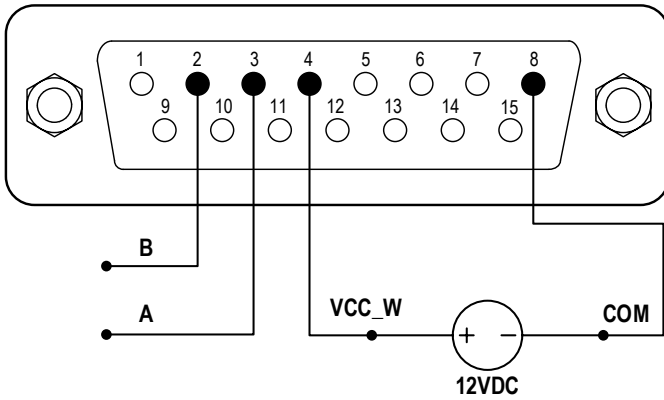

Figure 44. RS485 MODBUS Wiring
- 1) Turn the power off. Wire the DB15 connector as shown on Figure 44, and connect it to the DB15 port on the rear of the pump. External DC power source is recommended to avoid electrical interference.